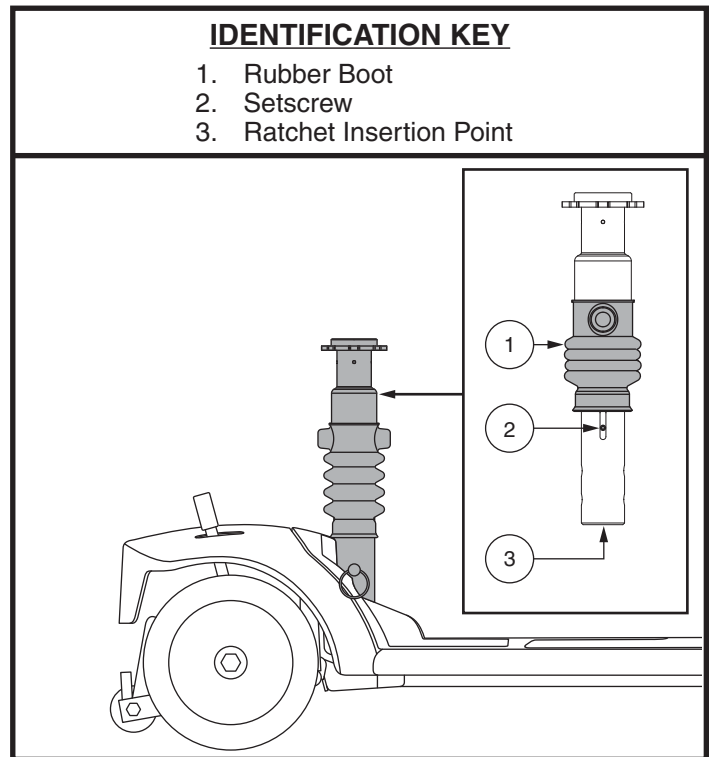

Figure 26. Seat Suspension Adjustment
The seat post acts as a shock absorber and can be adjusted for different degrees of ride comfort. Use the setscrews that are visible through the adjustment window on the side of the post as a guide when making adjustments. Slide the rubber boot towards the top of the post to expose the setscrews. See figure 26.
3. Insert a 13 mm socket with an extension into the bottom of the post. See figure 26.